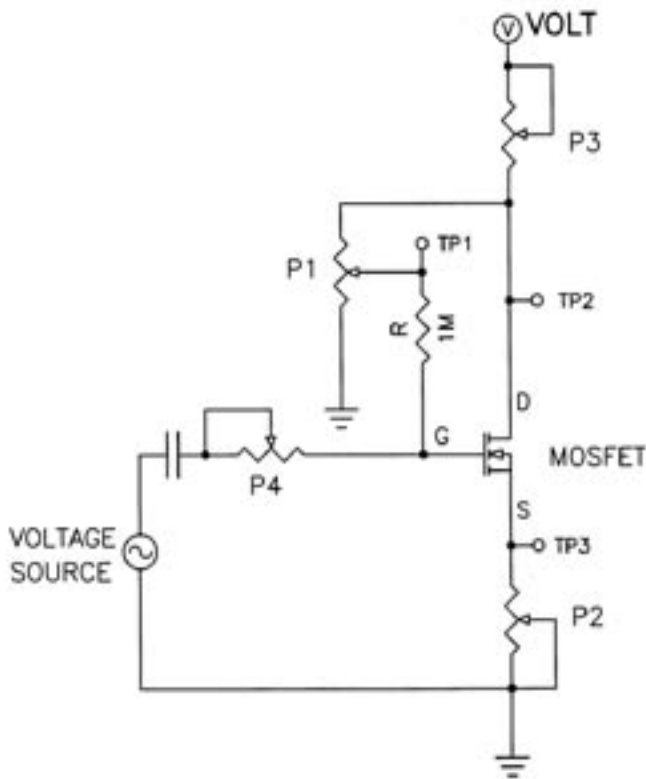
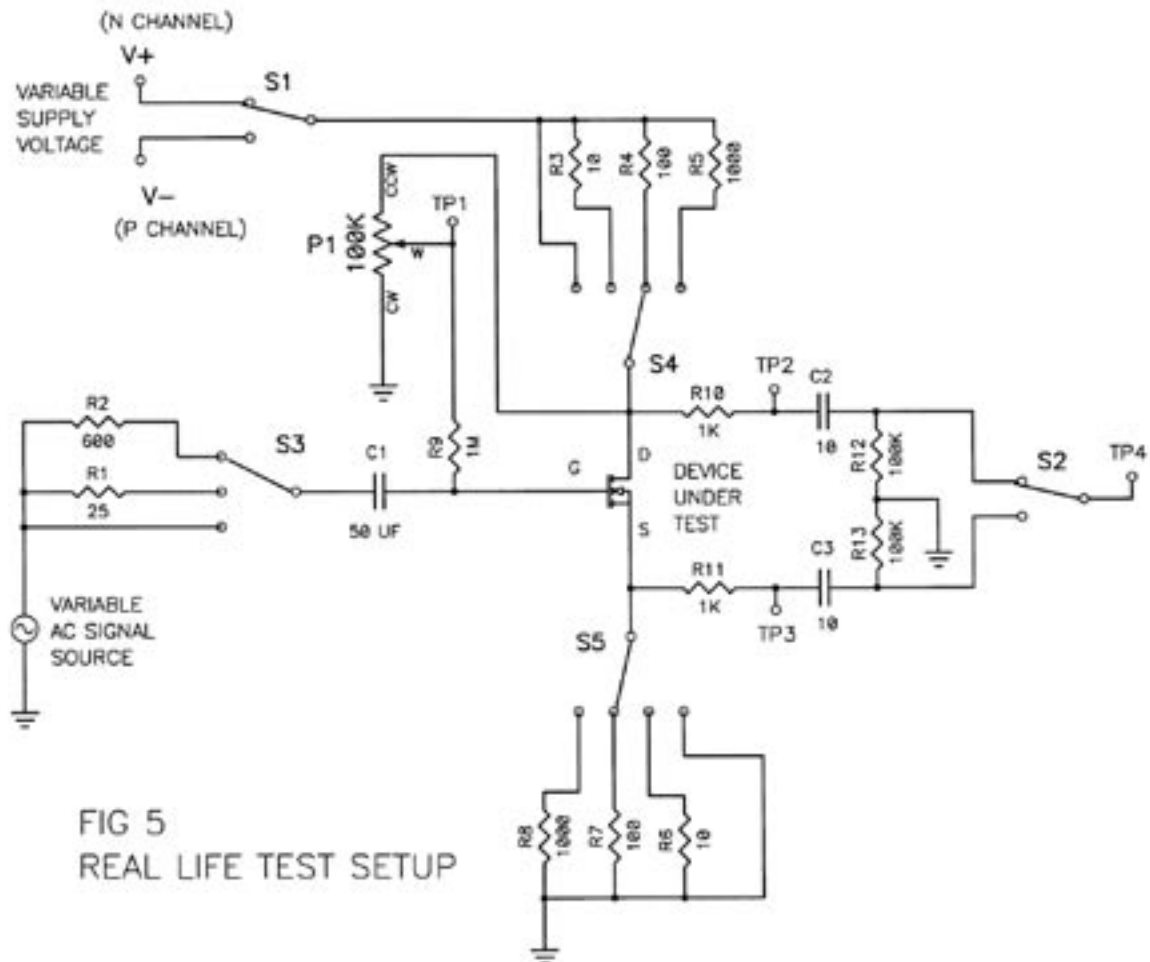

FIG 4 TEST EVERYTHING CIRCUIT
FIG 5
Figure 4 shows a simplified circuit for measuring some of the practical characteristics of Mosfets with an eye toward their use in audio circuits, and it will allow measurement of the characteristics just identified. The ranges of values of the adjustable resistors in this circuit is from 0 ohms in infinity, and of course this would cover just about any contingency. The DC and AC voltages to be measured would be those at the three pins of the Mosfet and the supply voltage, and from these everything can be calculated. The capacitor must be a low leakage film type.
Suppose we simply want to measure the DC value of V_{gs} at a given current. Referencing Figure 4, we set P1 full clockwise. We adjust P3 and the voltage at (V) for the current we want and measure the DC voltage between the Drain and Ground, noting and trimming the voltage
Using the circuit of Figure 4, you can measure transconductance under arbitrary conditions. In Common Drain mode, if you short P3 and measure across an arbitrary DC and AC value for P2 with an given input signal and supply voltage, you can compare the AC variation of Gate-Source voltage versus the output voltage. The Vgs variation divided by the current through P2 gives the transconductance, so you would be dividing the AC current occurring across P2 (which is the value of the voltage across P2 divided by the AC voltage) and you would be dividing this by the AC voltage which appears across the Gate and test point TP3. TP1 is only used for DC Gate measurements, being connected through 1 Megohm.
Introducing Figure 5
Figure 5 shows a practical version of the circuit of Figure 4 using switches and power resistors where real current is likely to flow instead of potentiometers. It assumes the use of a variable regulated supply designed to provide the voltages and currents you might find interesting. If you have a dual voltage supply it makes the use of S1 convenient in reversing the supply polarity, otherwise